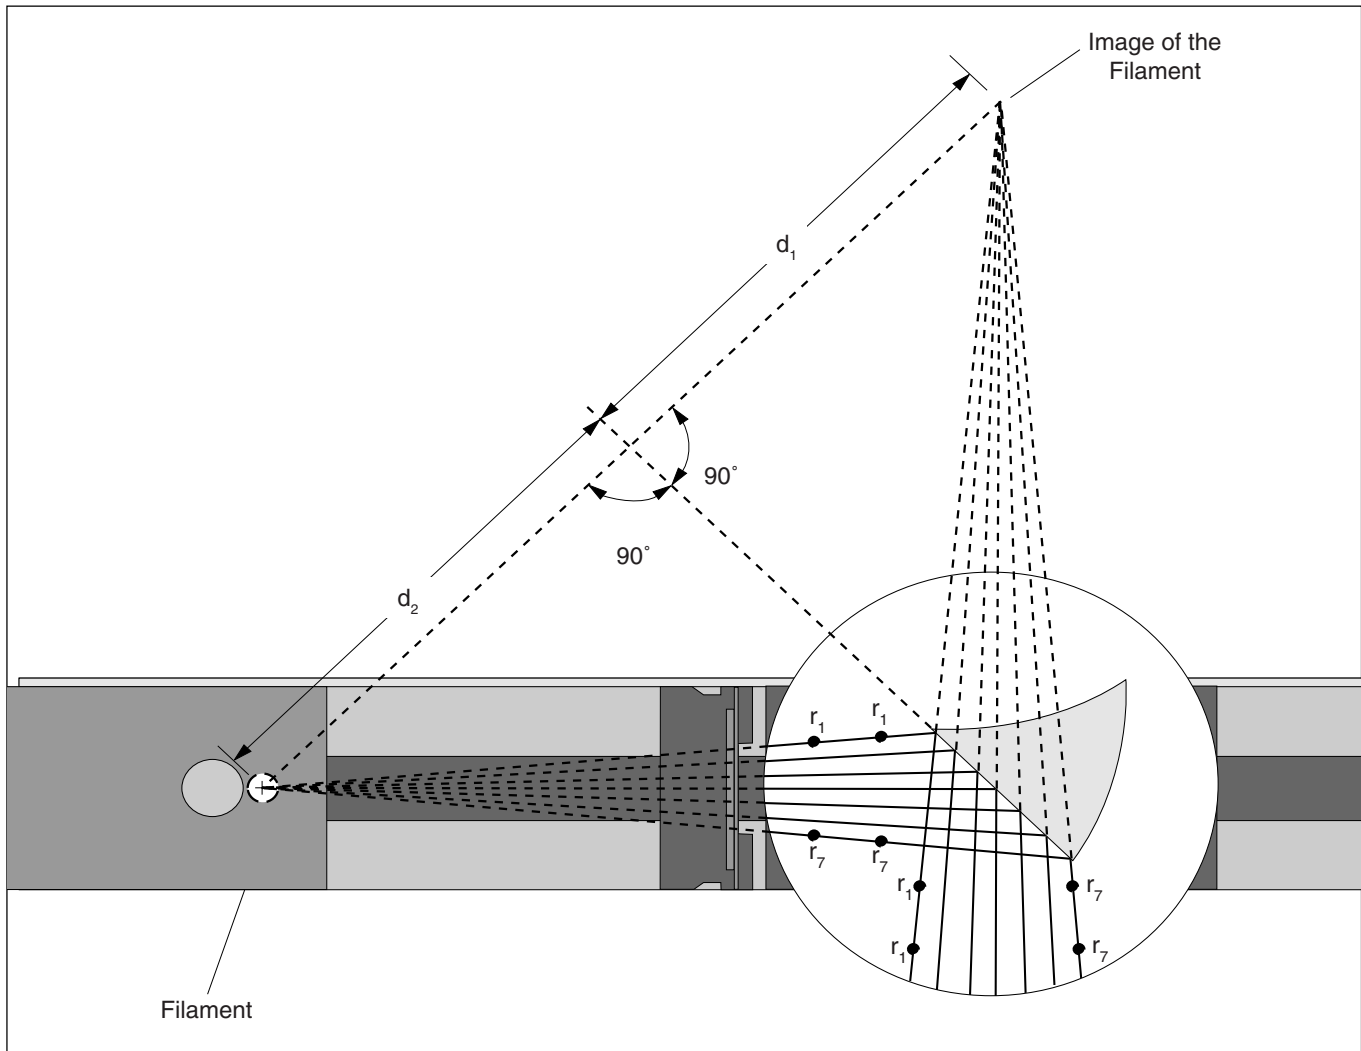

Figure 3.2 Ray Tracing
Remove the paper and reconstruct the rays as shown on the next page (Figure 3.2), using a pencil and straight-edge. If you need to, tape on additional pieces of paper. Draw dotted lines to extend the incident and reflected rays. (If this ray tracing technique is unfamiliar to you, review ray tracing in Experiment 1: Introduction to Ray Optics.)
- ② What is the perpendicular distance from the filament to the plane of the mirror (distance d_1 , as shown in the Figure 3.2)? _____.
- ③ What is the perpendicular distance from the image of the filament to the plane of the mirror (distance d_2 , as shown in the Figure)? _____.